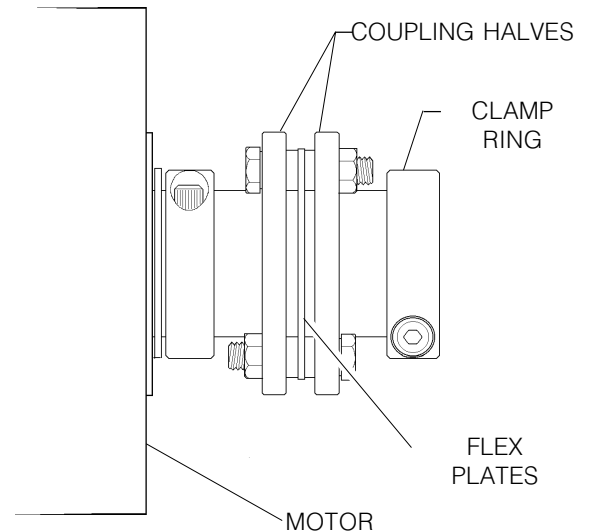

Fig. 10-2 Motor coupling components.
3. Visually inspect the **flex plates** to ensure they are parallel to the **coupling halves** and the slits in the coupling and **clamp ring** are in alignment (See Fig. 10-2). Tighten the 10-32 x 1/2" SHCS on the **motor coupling** at the lead screw. (Place a drop of blue Loctite® on the screw before inserting.)
3. Visually inspect the **flex plates** to ensure they are parallel to the **coupling halves** and the slits in the coupling and **clamping** are in alignment (See Fig. 10-2). Tighten the 10-32 x 1/2" SHCS on the